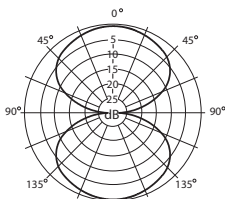

Figure-8
- 2. Pattern Switch** – Select from one of the three pick-up patterns: Omnidirectional, Cardioid, Figure-8
2. Set the G-Track Pro's pattern switch. If you are recording a single person, set the switch to the Cardioid position and be sure to face the front side, with the Samson logo. If recording two people, set the microphone to the Figure-8 position and if recording multiple subjects, set the switch to the Omni position.
An important characteristic of any microphone is its directionality or polar pattern. The G-Track Pro feature dual 1" capsules, allowing for a choice of three individual polar patterns: omnidirectional, unidirectional (cardioid), and bidirectional (figure-8). The microphone pattern can be selected using the three-position slide switch below the left side of the grill. Each pattern has distinct pick-up characteristics with respect to the sensitivity and frequency response to sounds arriving from different directions. The following section discusses some of the features of each pattern, to help you choose the best setting for your application.
Bidirectional (Figure-8) - This setting captures sound directly in front and back of the microphone while rejecting sound on the left and right sides, and has minimal off-axis frequency response deterioration. It is very useful in a variety of stereo microphone techniques. The figure-8 pattern can be used to simultaneously capture two instruments or vocalists by positioning the microphone directly between them, so one is addressing the front of the microphone and the other the rear. To select the figure-8 pickup pattern, set the pattern selection switch to the left position.
Polar Pattern	Cardioid (unidirectional), bidirectional (figure-8), omnidirectional